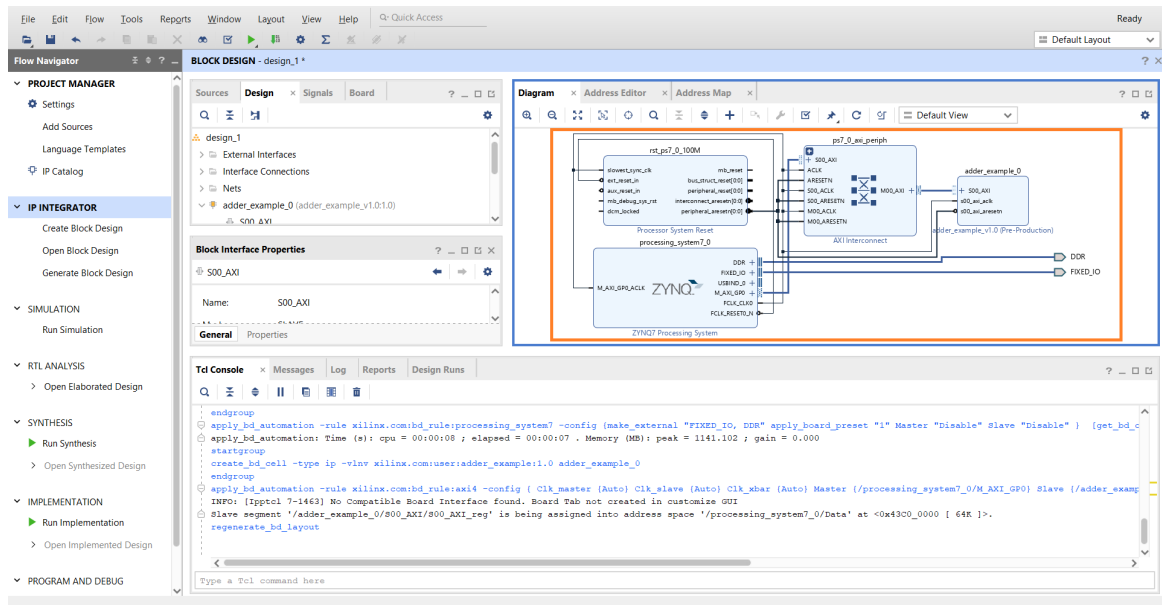

Figure 29: Fully connected block design
- STEP 4: Click on *Run Connection Automation* to automatically connect the Adder IP and the Processing System. A pop-up window will appear, let the default configuration and click *OK*. The result of this operation is shown by Figure 29